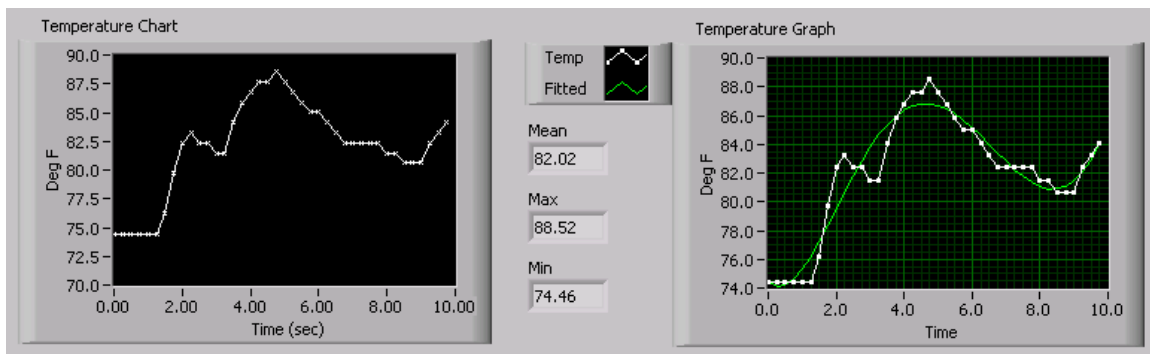

Figure 5.22
1. Open a blank VI and build the front panel shown in Figure 5.22.